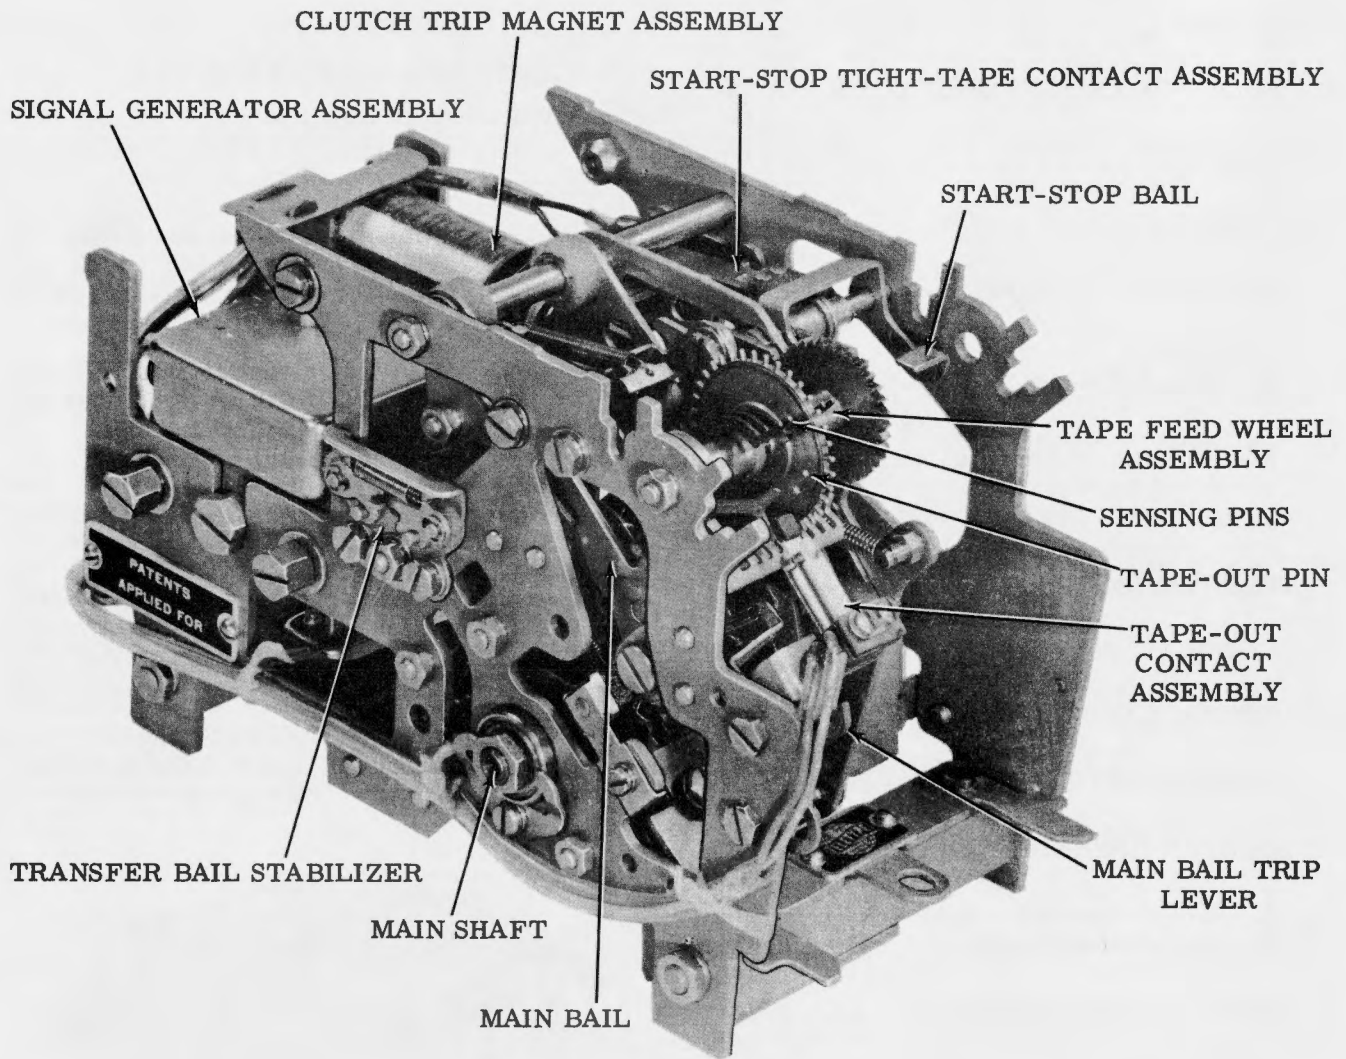

Figure 2 - Transmitter Distributor Unit (Cover Plate, Top Plate and Tape Guideplate Removed)
2.01 The basic operation of the transmitter distributor is to mechanically sense perforated tape and transfer the information to the signal generator, which performs the actual signal transmission (Figure 2).
- (a) The tape sensing mechanism which consists of a bank of sensing pins, (5 or 6 depending on the code level) each with its corresponding transfer lever and latch lever (Figures 2 and 3).
- (b) The main shaft assembly, (Figures 2 and 3) which is centrally located in the lower portion of the unit, has the outer race of each
- (d) A tape-out pin (Figure 2), located to the right of the sensing pins, stops transmission if there is no tape in the sensing head (Figure 5).